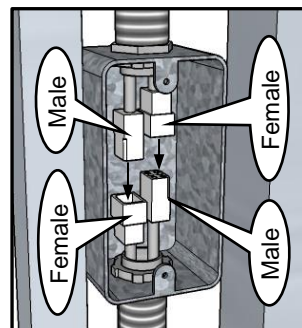
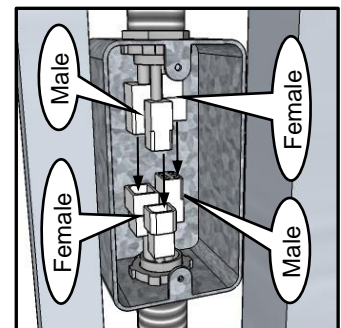

Figure 13
Figure 14
- 3 On 3-stop dumbwaiters, the wires dropping down will have a male and female connector as will the junction box. Make sure the male and female from above plug into the male and female from below. (for 3-stops see Figure 13) (for 4-stops see Figure 14)